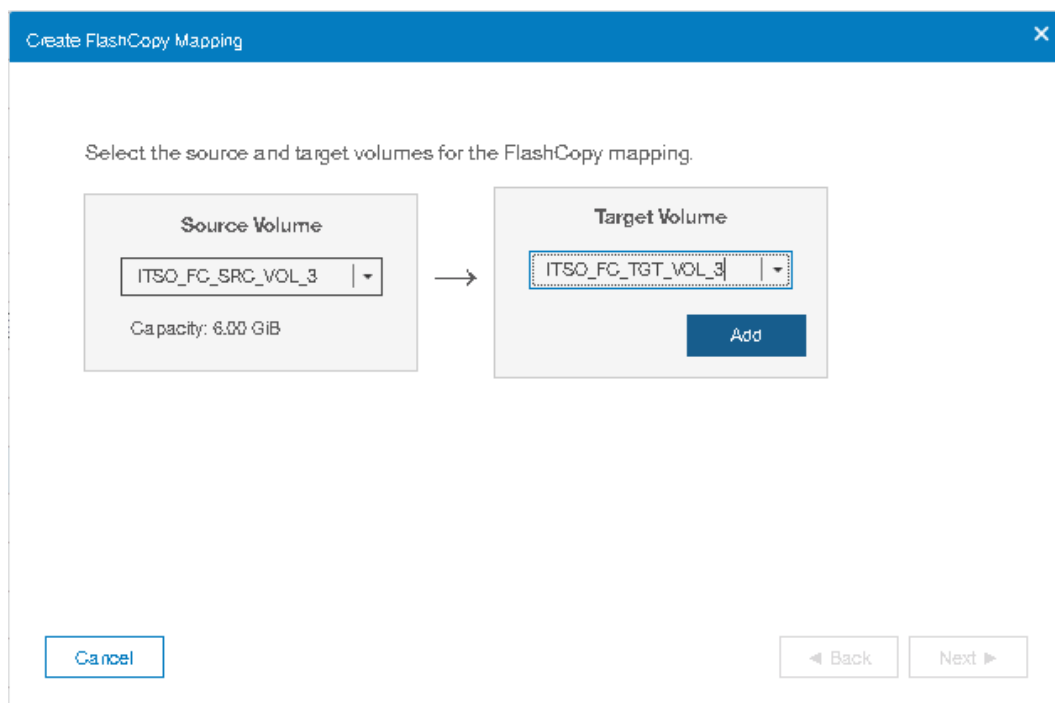

Figure 10-16 Create a FlashCopy Mapping by using an existing target volume
2. The Create FlashCopy Mapping window opens (Figure 10-16). In this window, you must create the relationship between the source volume (the disk that is copied) and the target volume (the disk that receives the copy). A mapping can be created between any two volumes that are managed by the same clustered system. Select a source volume and a target volume for your FlashCopy mapping, and then click **Add**. If you must create other copies, repeat this step.